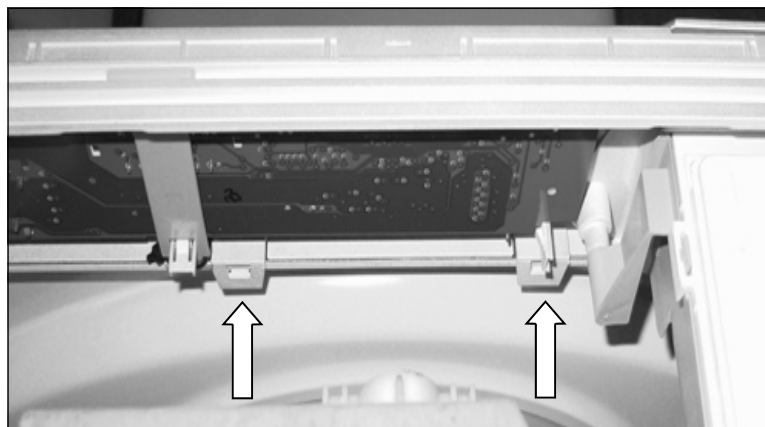

Fig. 4-3
- From the inside rear of the Control Panel, release the two Control Panel Mounting Tabs (Fig. 4-3), disconnect the wire harness and the Control Panel can be lifted off as a complete assembly.